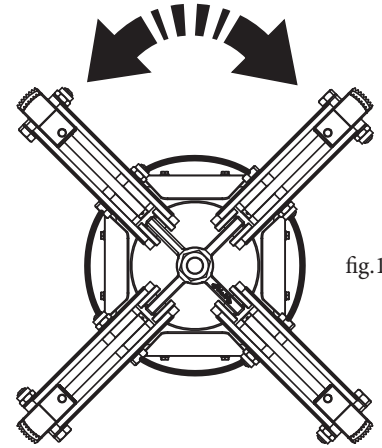

fig.1
**AUTOCENTRANTE UNIVERSALE (fig.1)**
**FOUR-JAW UNIVERSAL CHUCK (fig. 1)**
**AUTOCENTREUR UNIVERSEL (fig.1)**
**UNIVERSALSELBSTZENTRIERER (Abb. 1)**
**AUTOCENTRADO UNIVERSAL (fig.1)**